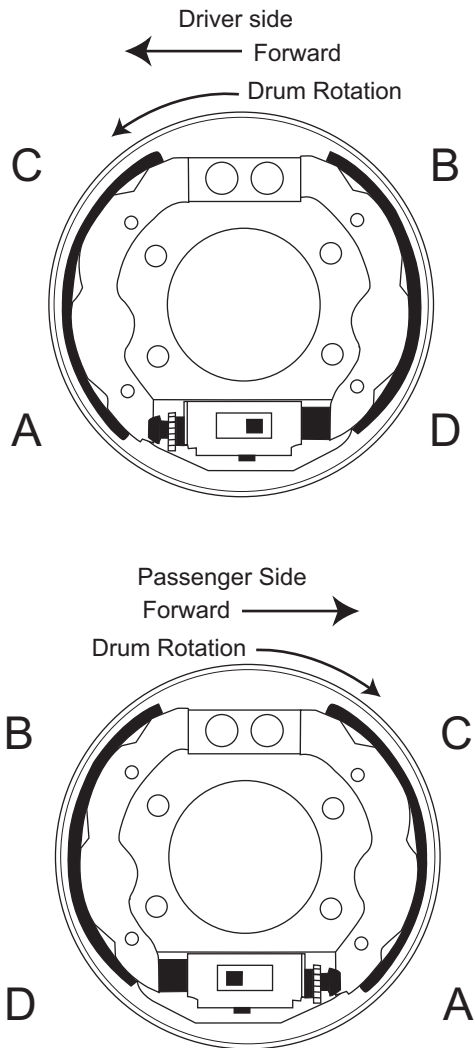

Fig. 15 Brake Shoe Wear
- It is normal for the shoes to show more wear at the leading and trailing edges (Ref Fig. 15).